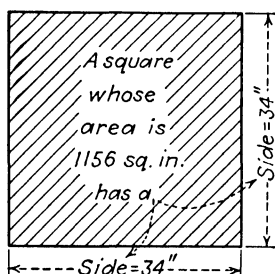

Fig. 73.
19. Study Fig. 73 carefully. What connection is there between the area of this square and the length of its sides?